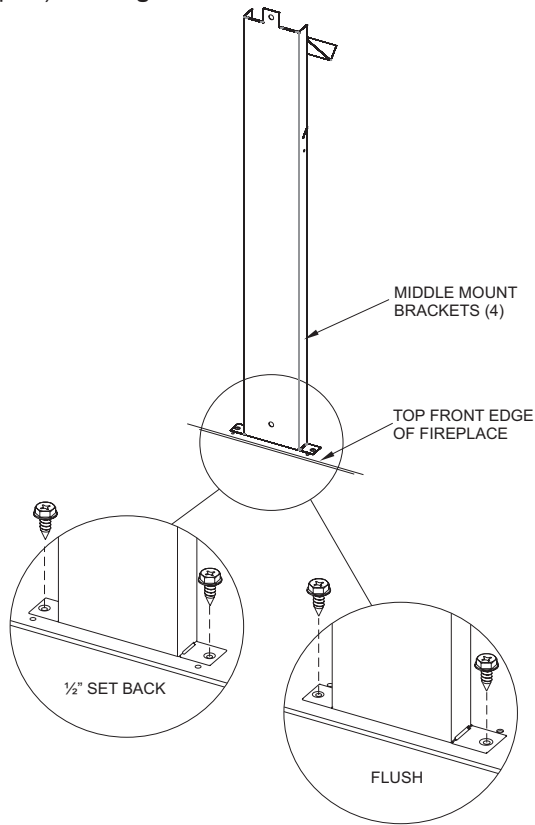

Figure 29
4. Attach the four middle mount framing brackets to the top front edge of the fireplace. These brackets support the supplied non-combustible board above the fireplace. Preset depth to suit facing material (flush or 1/2 inch set back depths). **See Figure 29.**